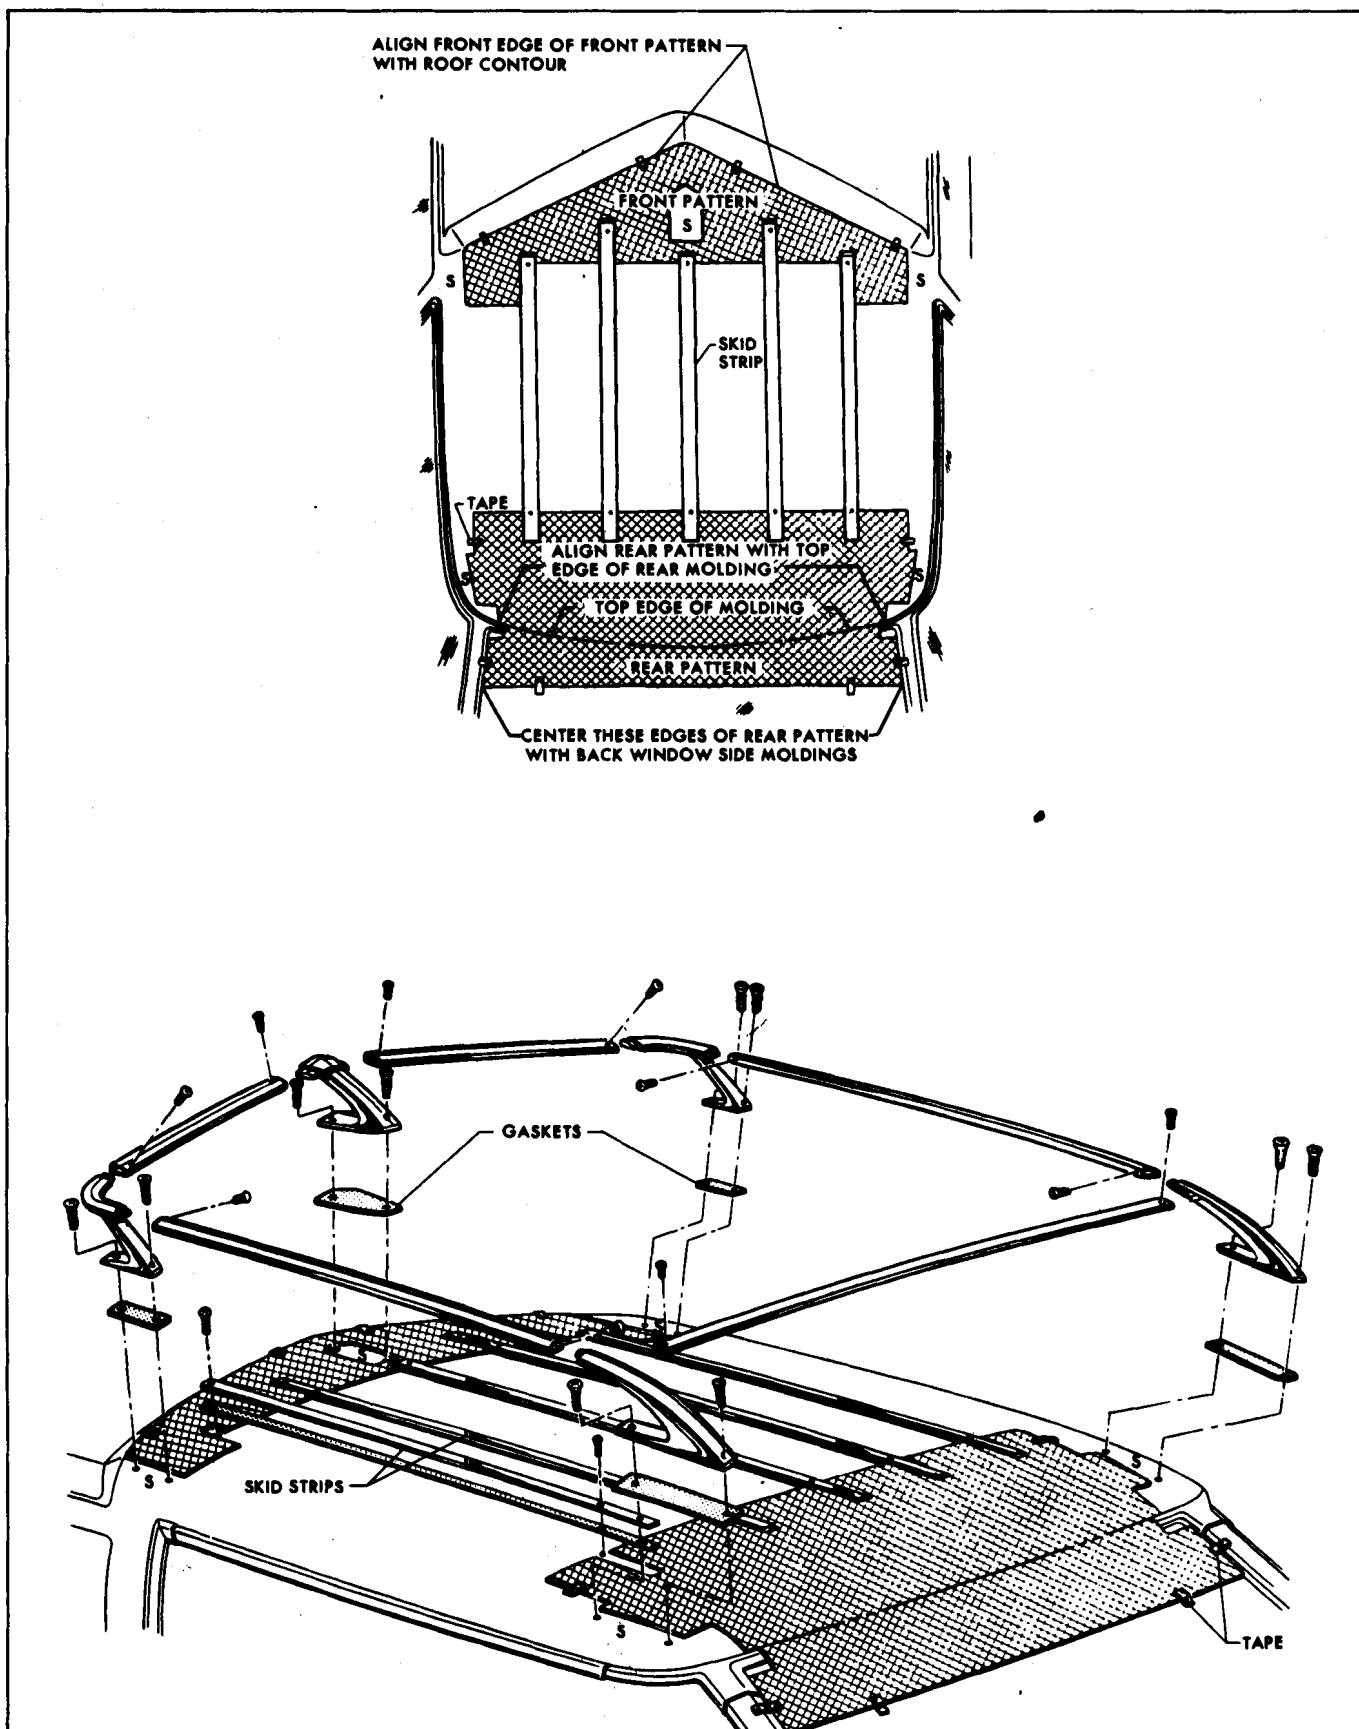

Fig. 11-22-Luggage Carrier Installation - Dealer Installed Option
1. Locate patterns as illustrated (Figure 11-22) and tape in place.
4. Assemble supports and top rails as shown (Figure 11-22) with ten 3/8 inch long screws and locate on roof as per pattern instructions at locations marked "S".